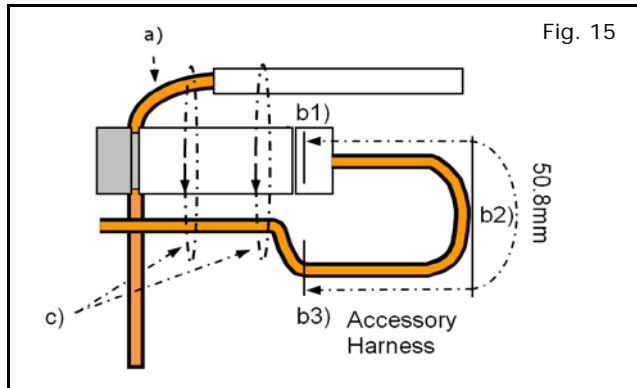

Fig. 15
- 16) Forming strain relief loop - required (Fig. 15).